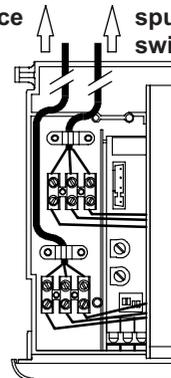

Fig. 6.16
- Route the electrical supply flexible cord and the external control flexible cord as illustrated in Fig. 6.16. Lock the flexible cords in place with the flexible cord clamps